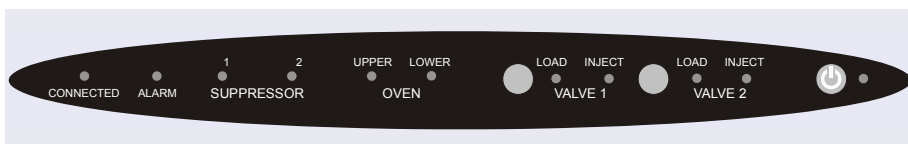

Figure 2-17. DC Status Bar
The status bar on the front of the Dionex ICS-5000⁺ Detector/Chromatography Module (DC) (see Figure 2-17) includes buttons for controlling certain DC functions, as well as LEDs that indicate the status of several DC components and functions.